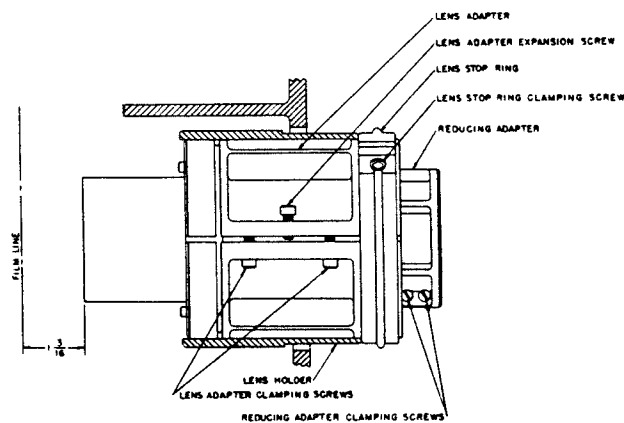

FIGURE 1-16
d. 2.031, 2.118 and 2.125 Inch Diameter Lenses--All Focal Lengths (See figure 1-16.)